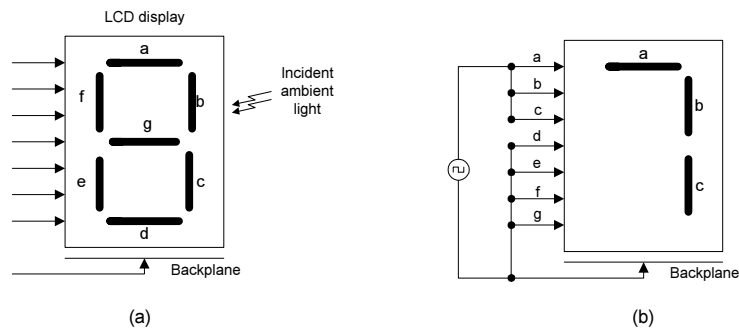

Fig. 2.24 : Liquid crystal display (a) basic arrangement; (b) applying a voltage between segment and back plane.
Basically, LCDs operate from a low-voltage (typically, 3 to 15 V rms), low-frequency (25 to 60 Hz) ac signal and draw very little current. They are often arranged as 7-segment displays for numerical readouts as shown in Fig. 2.24. The ac voltage needed to turn on a segment is applied between the segment and the backplane, which is common to all segments. The segment and backplane form a capacitor that draws very little current as long as the ac frequency is kept low.
and g in Fig. 2.24 are OFF and will reflect incident light so that they appear invisible against their background. When an appropriate ac voltage is applied between a segment and the backplane, the segment is activated (ON). Segments a, b, and c in Fig. 2.24 are ON and will not reflect the incident light, and thus they appear dark against their background.